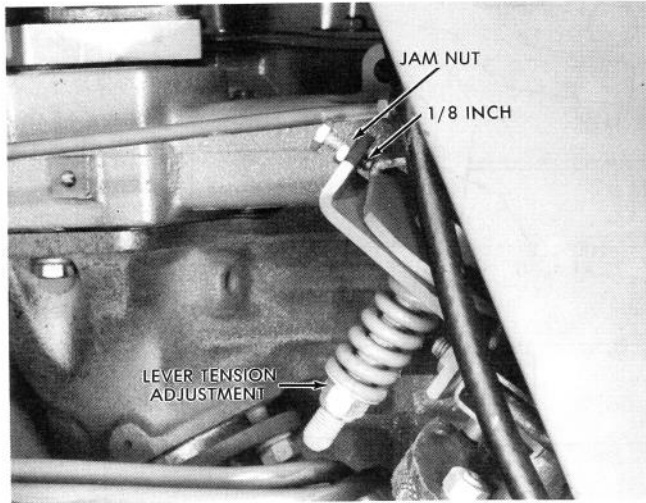

Figure 48
2. Adjust the low speed stop screw so 1/8 inch protrudes through the bracket as shown in Figure 48. Secure with the jam nut.
8. If the throttle lever "creeps" at high speeds, tighten the nut shown in Figure 48 to apply additional tension to the lever.